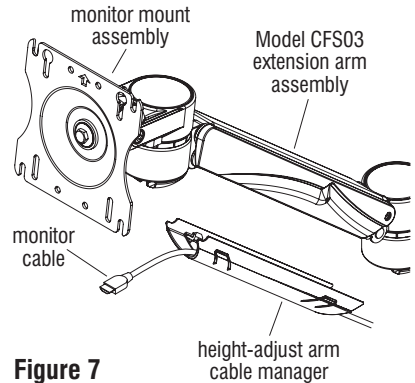

Figure 7
2. Lay cables in height-adjust arm cable manager (Figure 7).